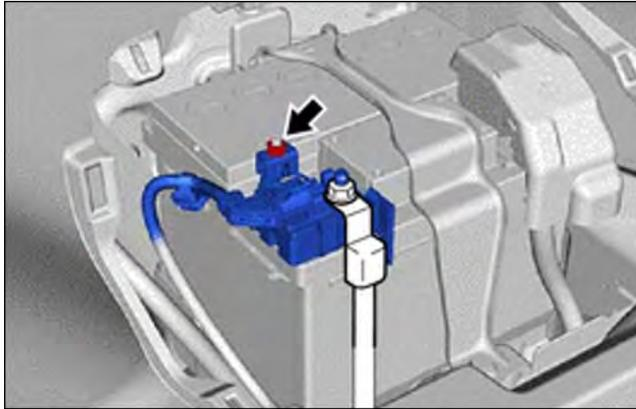

Figure 75a
- (a) Connect the cable to the negative (-) battery terminal and torque the nut to 5.4 N m 55 kgf cm, 48 in lbf as shown in Figure 75a.